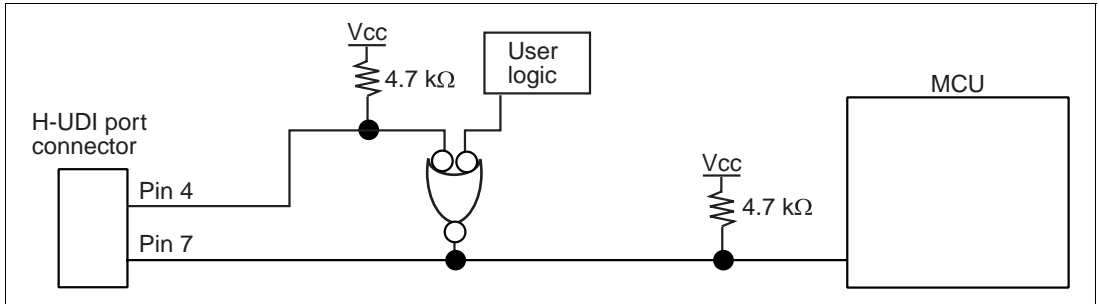

Figure 1.6 Example of Reset Circuits
- RES# of pin 4 of the H-UDI port connector is a signal line in which the emulator outputs signals to the MCU. RES# of pin 4 and the user system reset circuit must be connected to the MCU, as shown in figure 1.6. RES# of pin 7 of the H-UDI port connector is a signal line in which the emulator monitors the RES# signal of the MCU. The RES# must be pulled up before it is connected to pin 7 of the H-UDI port connector.